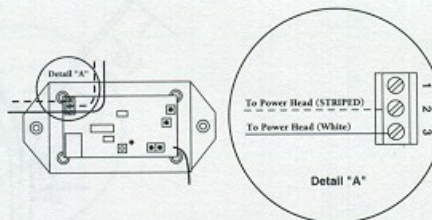

Figure 3-3
- **CONNECT** the STRIPED Wire to terminal 2 on the Receiver. (Figure 3-3)
- **CONNECT** the WHITE Wire to terminal 3 on the Receiver. (*Do not tighten screw yet. Another wire will be added later.*) (Figure 3-3)